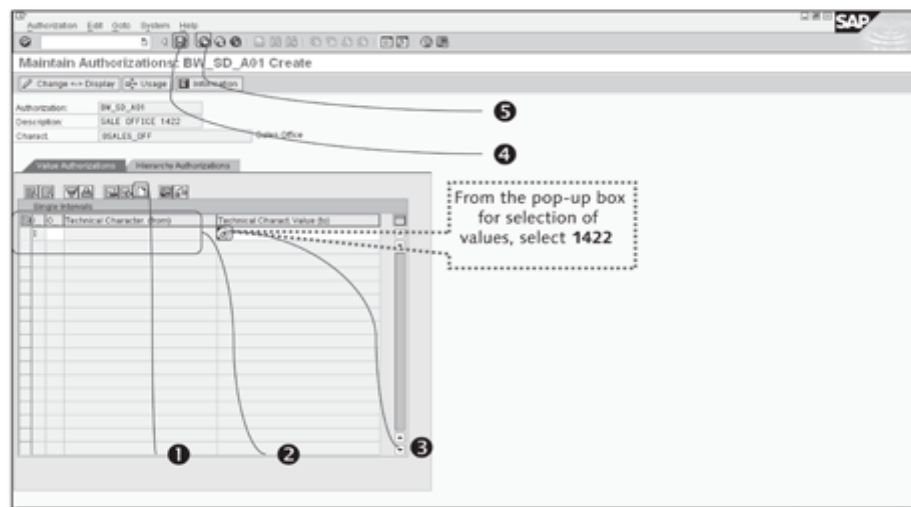

Figure 14.44 Maintain Authorization Values
Double-click the OSALES_OFF row. The system takes you to a screen where you can enter the characteristics value or hierarchy value (Figure 14.44).
Now choose the Value Authorizations tab, and click the Create Row icon (❶ of Figure 14.44), which opens a row editable in the table (❷). From the dropdown list (❸), choose a value to which to restrict the information in sales office reports (in our example, we use 1422). Click the Save and Back icons, respectively. Authorization object BW_SD_A01 is created, which allow analysis only for sales office 1422.